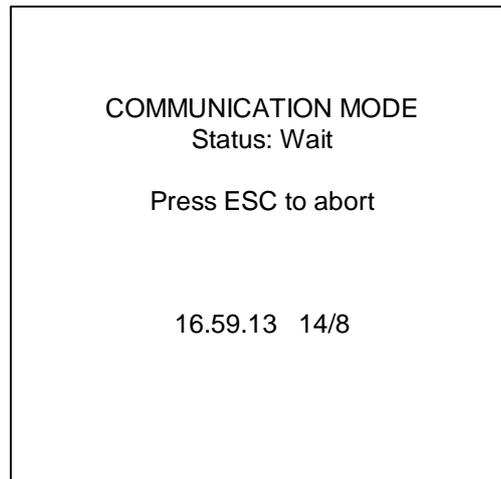

Figure 29: *Communication Mode*
- ? Opens a menu in Figure 29.